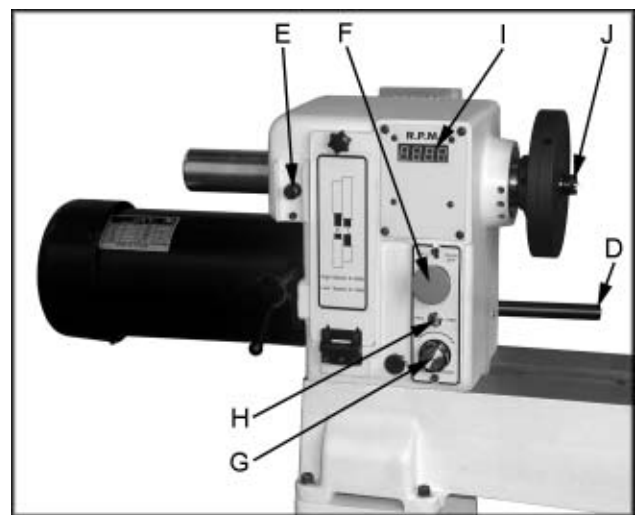

Fig. 6
1. **Headstock Lock Handle:** (D, Fig. 6)
2. **Headstock Spindle Lock:** (E, Fig. 6)
3. **Headstock On/Off Button:** (F, Fig. 6)
4. **Headstock RPM Knob:** (G, Fig. 6)
5. **Headstock For/Rev Switch:** (H, Fig. 6)
6. **Headstock RPM Readout:** (I, Fig. 6)